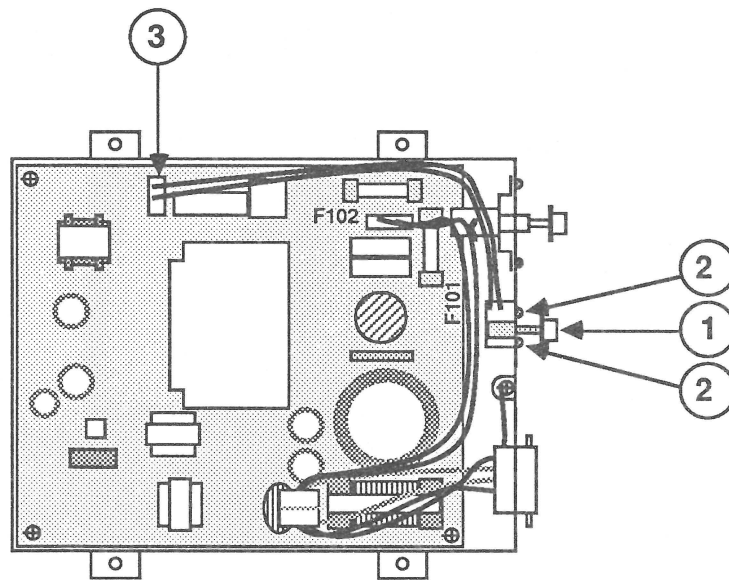

FIGURE 28
7. Pull the plastic knob off the degauss switch stem (Figure 28, #1).
8. Remove the two screws (Figure 28, #2) that secure the degauss switch to the power supply housing.
9. Disconnect the degauss connector from CN202 on the power supply board (Figure 28, #3).
1. Reconnect the degauss connector to CN202 on the power supply board (Figure 28, #3).
2. Install the degauss switch in its place inside the power supply housing and replace the two screws (Figure 28, #2).
3. Replace the degauss knob on the switch stem (Figure 28, #1).